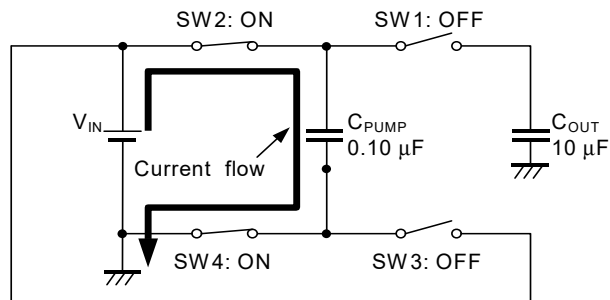
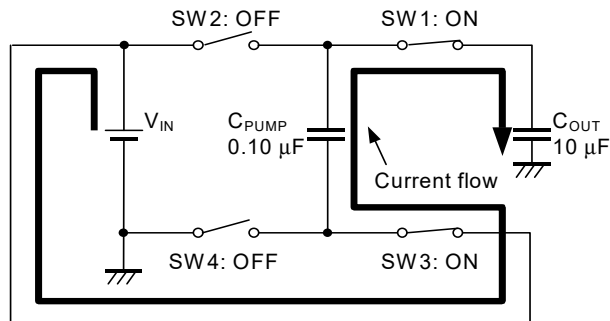

Figure 8
Figure 9
Figure 8 shows the charge cycle, and **Figure 9** shows the discharge cycle.
- The ON/ $\overline{\text{OFF}}$ pin is configured as shown in **Figure 9** and is neither pulled up or down internally, so do not use this pin in a floating state. When not using the ON/ $\overline{\text{OFF}}$ pin, connect it to the VIN pin.